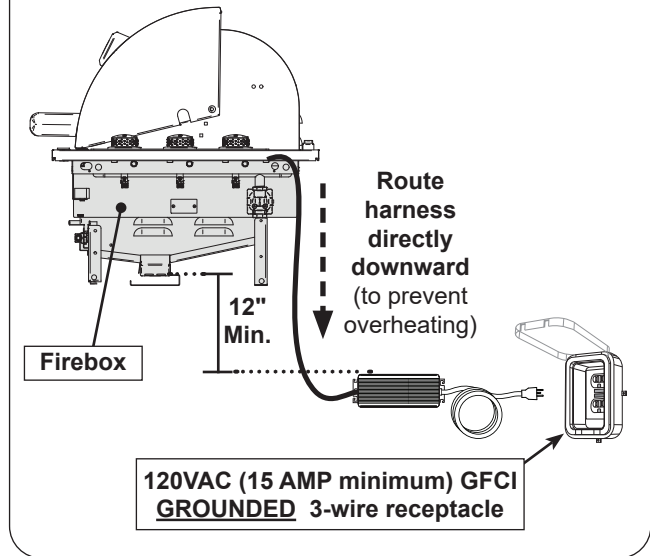

Fig. 30-1 Power supply installation
1. Route the power supply directly downward. This will prevent overheating. **DO NOT** route the harness directly underneath the firebox. See Fig. 30-1.
- located at least **12" Min.** below the bottom of the firebox (see Fig. 30-1)
3. Connect the power cord to a **120VAC (15 AMP minimum) GFCI GROUNDED three-wire receptacle** (see Fig. 30-1). The GFCI receptacle must be a WEATHER-PROOF IN-USE COVERED RECEPTACLE.